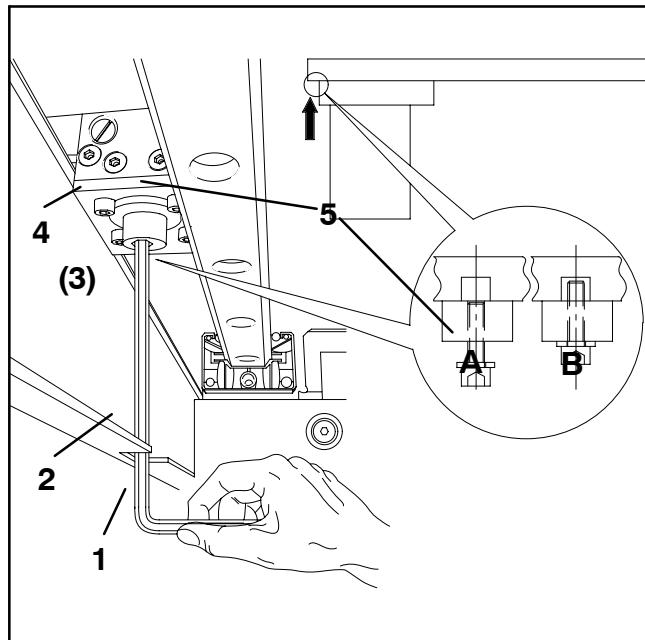

Fig. 3: Remove the safety brackets and the stop bolt
- (1): Ground wires of cover panel.
- (2): X-guide rails of the tabletop. There are safety brackets (see Fig. 3, mark1) mounted to the end of the rails, secured on each rail by 4 Allen screws (s/n: 05.00.160 and thereafter, or according to FCO 712 00013).
- (3): Brake rail of the tabletop.
- (4): Support block with roller bearings on the cross table, inside the X-guide rails.
*Make sure that the stop bolt (Allen screw 10mm) is fully screwed in into the brake block (X-direction) again (see Fig.3 ) so that it is impossible to pull the tabletop off the cross table during routine operation.